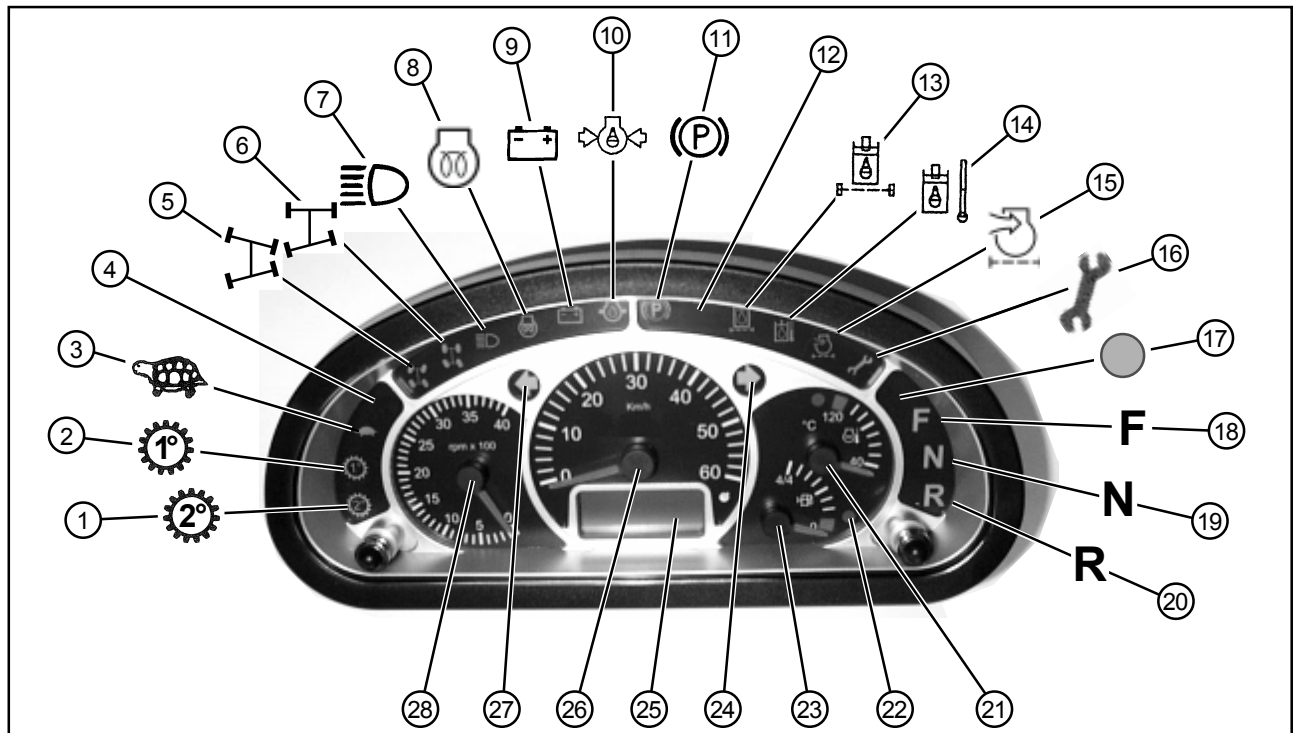

Figure 4-14
- 1 - Multifunction panel (see chapter 4.4.1 Fig. 4-14)